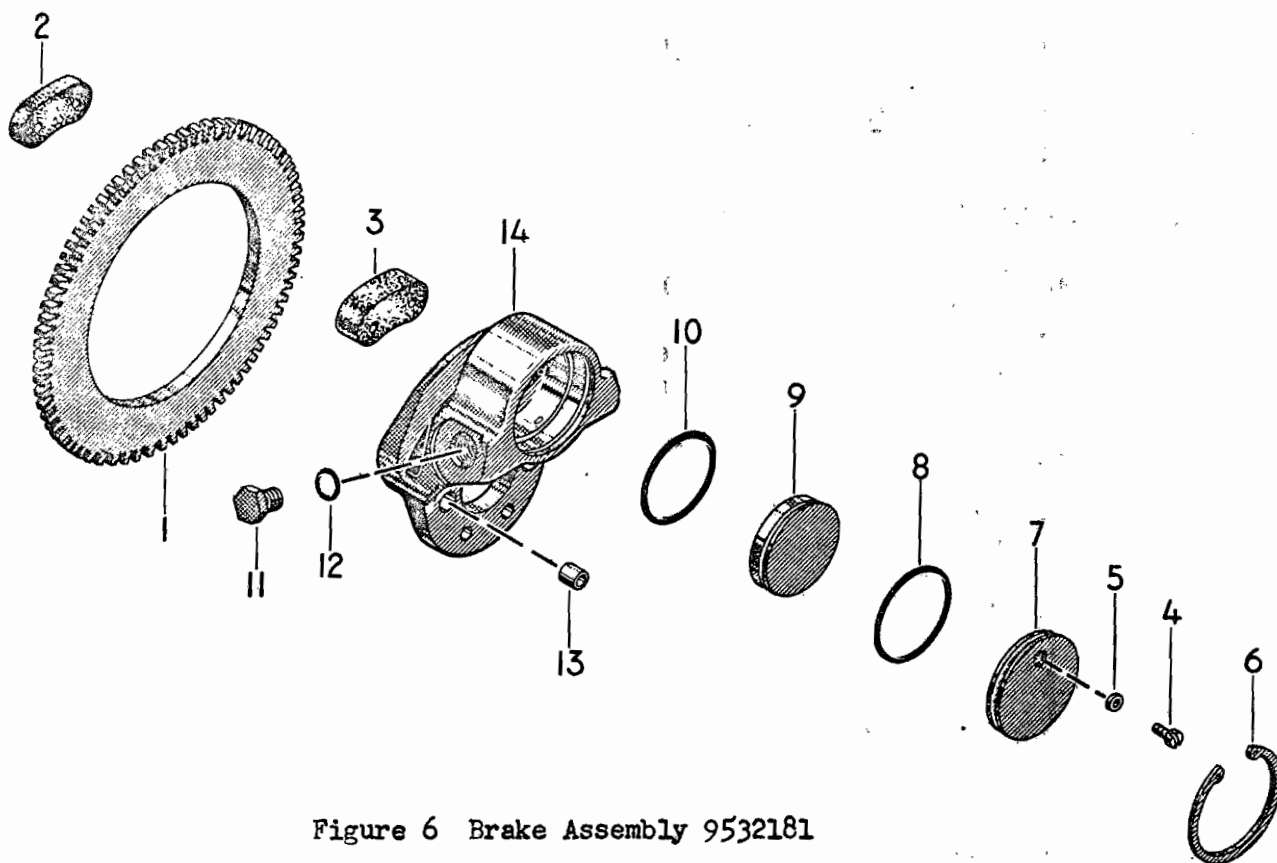

Figure 6 Brake Assembly 9532181
4-1 REPLACING BRAKE LININGS (See Figure 6)
4-2 DISASSEMBLY - Brake 9532181 (See Figure 6).
4-4 REASSEMBLY - Brake 4532181 (See Figure 6)
- a. Lubricate the cylinder walls of the brake housing (14), the contacting surfaces of the piston (9) and cylinder head (7) with a thin coat of MIL-L-7711 grease.
- b. Lubricate the cylinder head O-ring seal (8) with MIL-L-7711 grease (or equivalent) and install in groove provided in the cylinder head (7).
- c. Lubricate the piston O-ring seal (10) with MIL-L-7711 grease (or equivalent) and install it on the piston (9).
- d. Install the piston (9) in the brake housing (14) with the thick section of the O-ring groove towards the brake lining.
- e. Position the cylinder head (7) on the brake housing (14) and secure with retainer ring (6).
- f. Install the thicker brake lining (3, Figure 6) on the piston side of the brake housing (14, Figure 6) with the part number (molded in the lining) facing the piston, so that the smooth side will be in contact with the disc.
- g. Install the thinner brake lining (2) on the anvil side of the brake housing (14) with the part number (molded in the lining) facing the anvil, so that the smooth side of the lining will be in contact with the disc (1).
- h. Install the brake disc (1) between the brake linings (2 and 3).
- i. Install the inlet gasket (12) on the inlet plug (11) and screw the plug into position in the brake housing (14).
- j. Place the bleeder screw seals (5) in bleeder screws (4) and install the screws in the cylinder head (7) completing the reassembly.